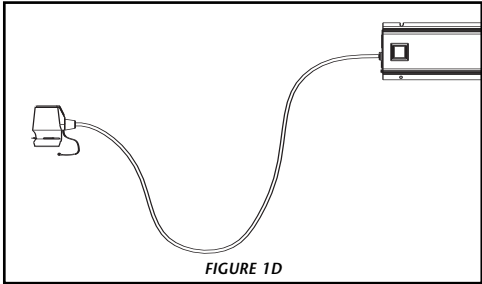
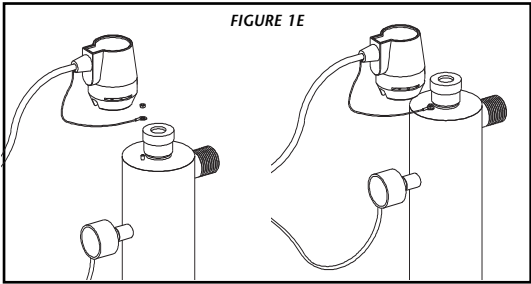

FIGURE 1D
FIGURE 1E
4. Mount the Platinum ICE controller horizontally to the wall, near the reactor chamber. Ideally place the controller above the reactor and away from any water connection point, to prevent any water from potentially leaking onto the controller by means of a leak at a connection point or a “sweating” system. Make sure you allow for a “drip-loop” (Figure 1d) on the lamp, sensor and power cord, again, to prevent any water from potentially entering the controller. Affix the green ground wire to the grounding lug at the top of the reactor vessel and securely fasten with the locknut provided (Figure 1e).